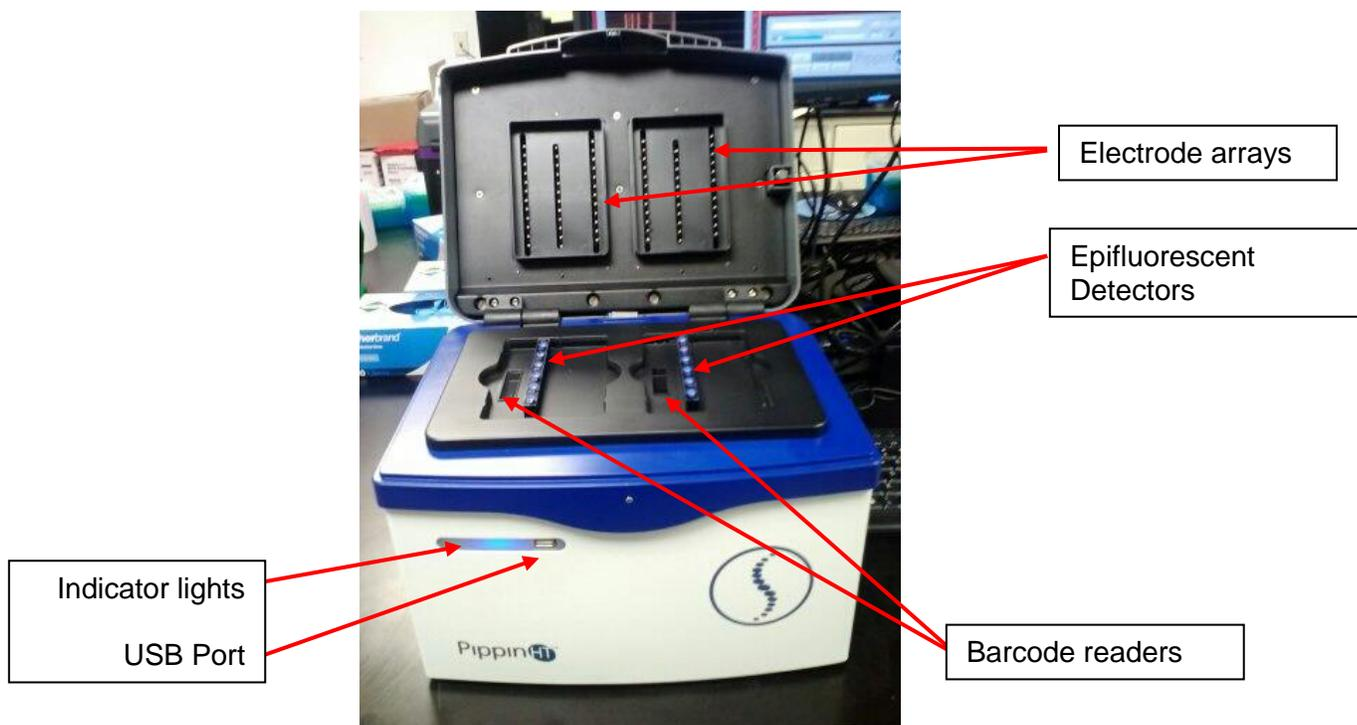

Figure 1.1. Layout of the PippinHT instrument
- **Instrument** – *The instrument features two epifluorescent detector arrays, two barcode readers, an electrophoresis power supply, two electrode arrays, and a single-board computer. The system computer is accessed by an external LCD monitor, mouse, and keyboard. (Figure 1-1)*